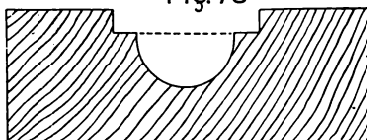

Fig. 75
*Fig. 75* is worked with a wide plow cutter and a fluting cutter. The fluting cutter should be used to make the hollow groove first, in order that the edges of the groove will be sharp on the finished moulding.